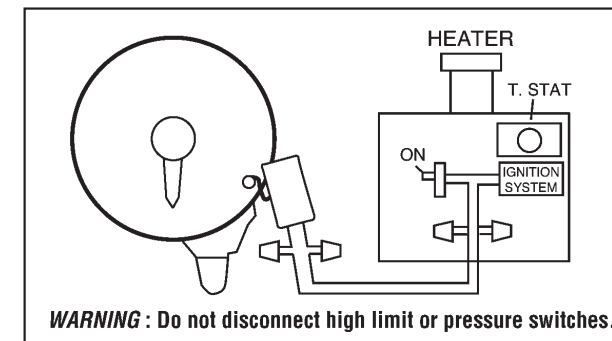

Figure 2
5. If required by the heater manufacturer, install fireman switch kit 156T4042A (not furnished) on Time Switch Plate and make the fireman switch connections. Use at least #18 AWG wiring with insulation rated 300 Volt or higher. Place heater ON/OFF switch on heater to **ON** (see Figure 2 on page 3). Some heaters may require a special connecting harness, contact heater manufacturer for details.
*Stand-offs are not furnished. Order 21T156A for a set of four (4) stand-offs and mounting hardware.
- c. Move the manual lever of Time Switch to the right (ON).